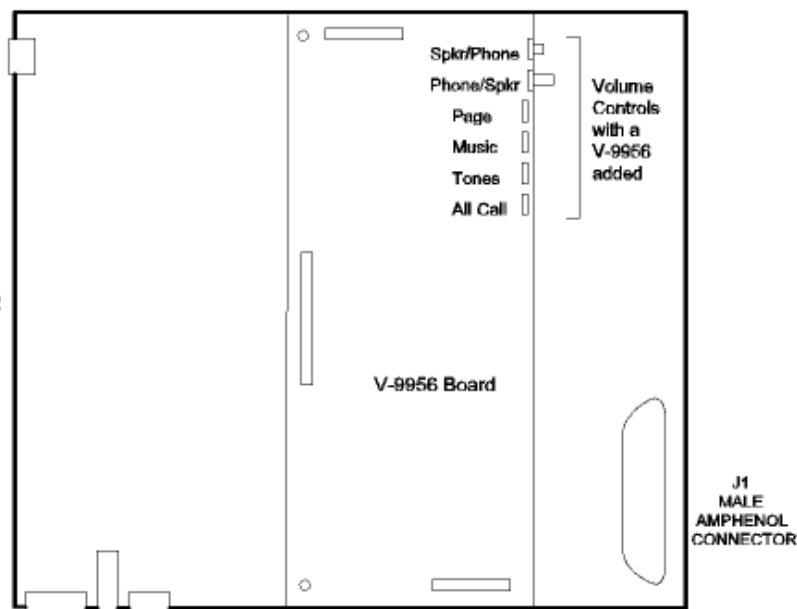

FIGURE 3
- ___ 9. Using twisted pair telephone wire, connect the Talkback Speakers to the appropriate output (see Figure 3) on the V-2006A connection block. Zone 1 speakers connect to the Y-O pair, Zone 2 speakers connect to the Y-G pair, Zone 3 speakers connect to the Y-BR pair, Zone 4 speakers connect to the Y-S pair, Zone 5 speakers connect to the V-BL pair, and Zone 6 speakers to the V-O pair. No more than two (2) 45-Ohm speakers should be connected to any talkback zone. Do not use 8 ohm speakers.